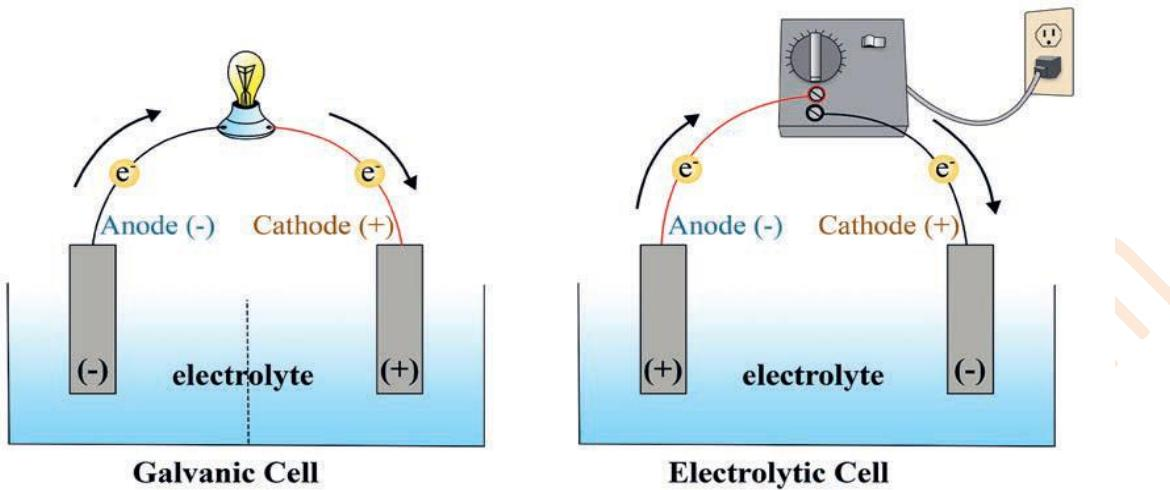

Figure 2. 12: An electrochemical cell:
example, let's use 0.10 MCu²⁺ in the anode half-cell and 1.0M Cu²⁺ in the cathode half-cell (Figure 2. 11):
1. Corrosion increases when iron behaves more like the anode. When iron is in contact with a less active metal (weaker reducing agent), such as copper, it loses electrons more readily (its anodic function is enhanced; **Figure 2. 15**). Non conducting rubber or plastic spacers are placed between the metals to avoid this problem.
2. Corrosion decreases when iron behaves more like the cathode. In cathodic protection, the most effective way to prevent corrosion, iron makes contact with a more active metal (stronger reducing agent), such as zinc. The iron becomes the cathode and remains intact, while the zinc acts as the anode and loses electrons (**Figure 2. 16**). Coating iron with a “sacrificial” layer of zinc is called *galvanizing*.
Figure 2. 16: The effect of Metal-metal contact on the corrosion of iron; *Fe* in contact with *Zn* does not corrode. This method of preventing corrosion is known as cathodic protection.